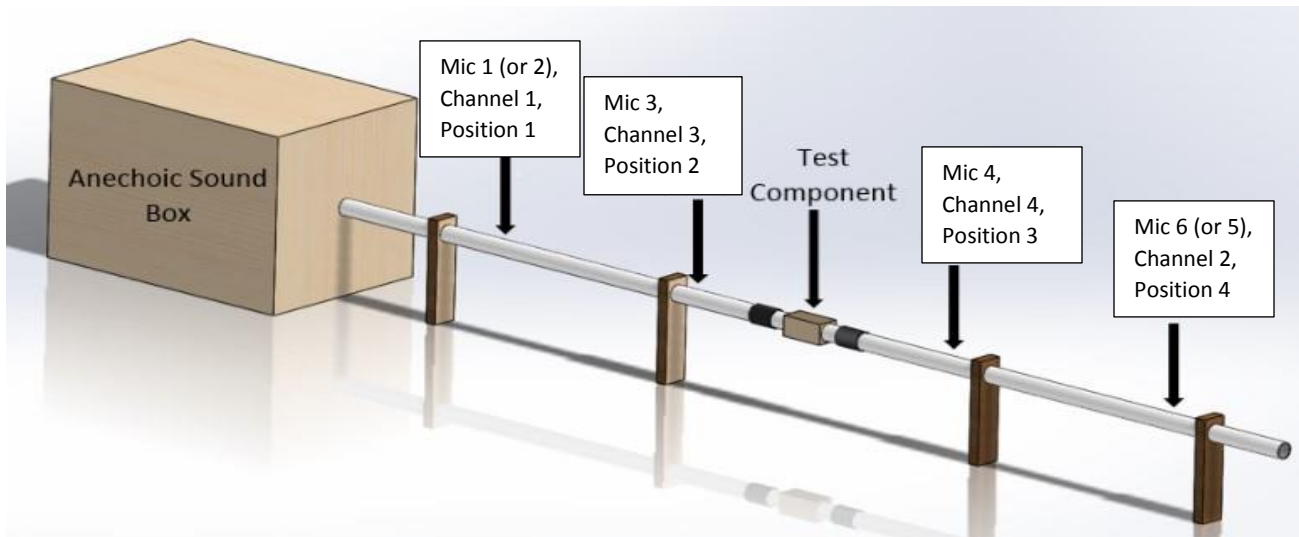

Figure 1: UICSC Sound Box Configuration
The box contains amplified speakers and tweeters acting as a sound source directed into the UI SB. The housing was built using 1.91 cm (0.75 in) high density fiber board internally lined with the studio-foam. Attached to the sound box is the waveguide, which extends to the environment with a removable center section. This section in the center of the pipe is removable for the purpose of testing individual acoustic components. The component length was held constant so the waveguide spanned the same distance for each test. Four microphones were placed along the pipe at the specified locations from the outlet of the UI SB. The microphone's signals were analyzed using a Digilent electronics explorer board. Figure 1 represents the final configuration of the UI SB.
- i. Based on Calibration: Place Mic 1 at Position 1. This Mic should be connected to the circuit cable labeled "Channel 1". This Mic can be replaced with Mic 2 if needed (Will need to replace calibration #'s in spreadsheet to match replaced mic). See Figure 1.
- b. Place two mics on outlet tube (Mic 4 and Mic 6). See Figure 1.